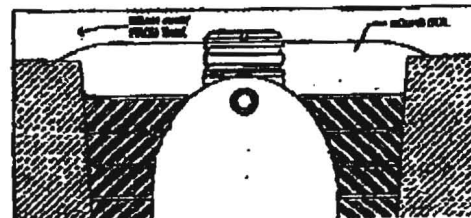

Figure 5.
- Mound the soil over the septic tank to provide positive drainage away from the tank and to allow for soil settling in the excavated area. [Figure 5]